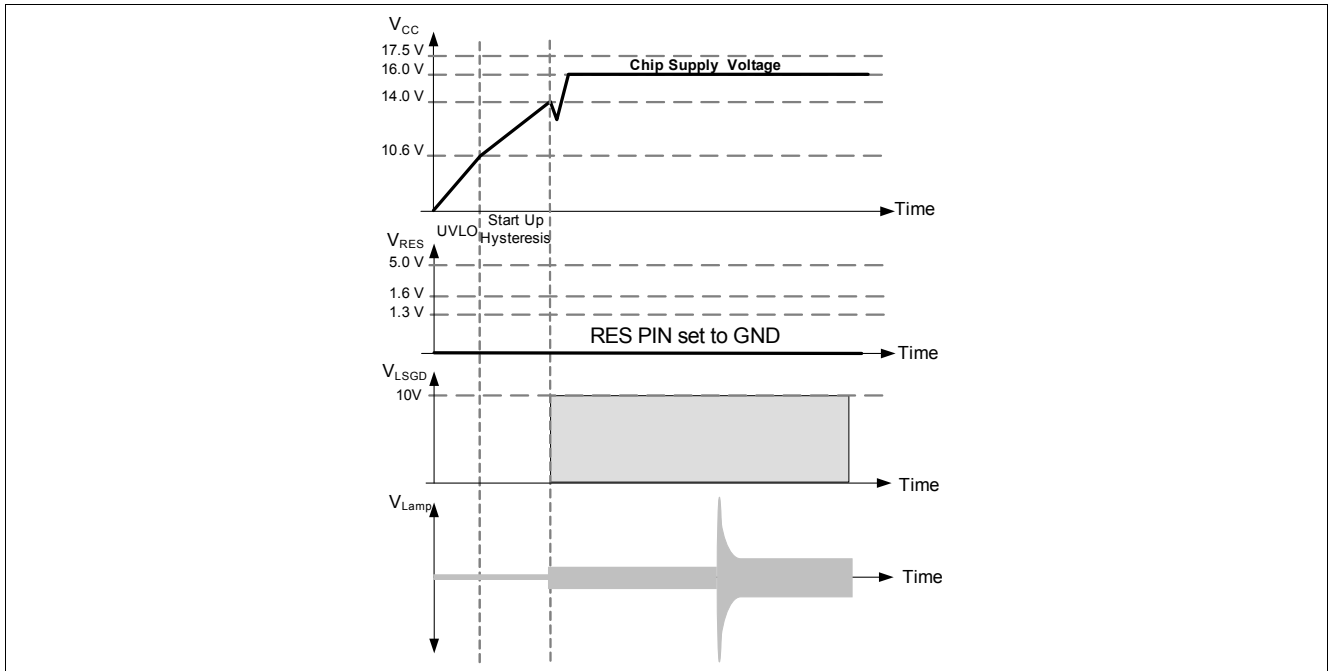
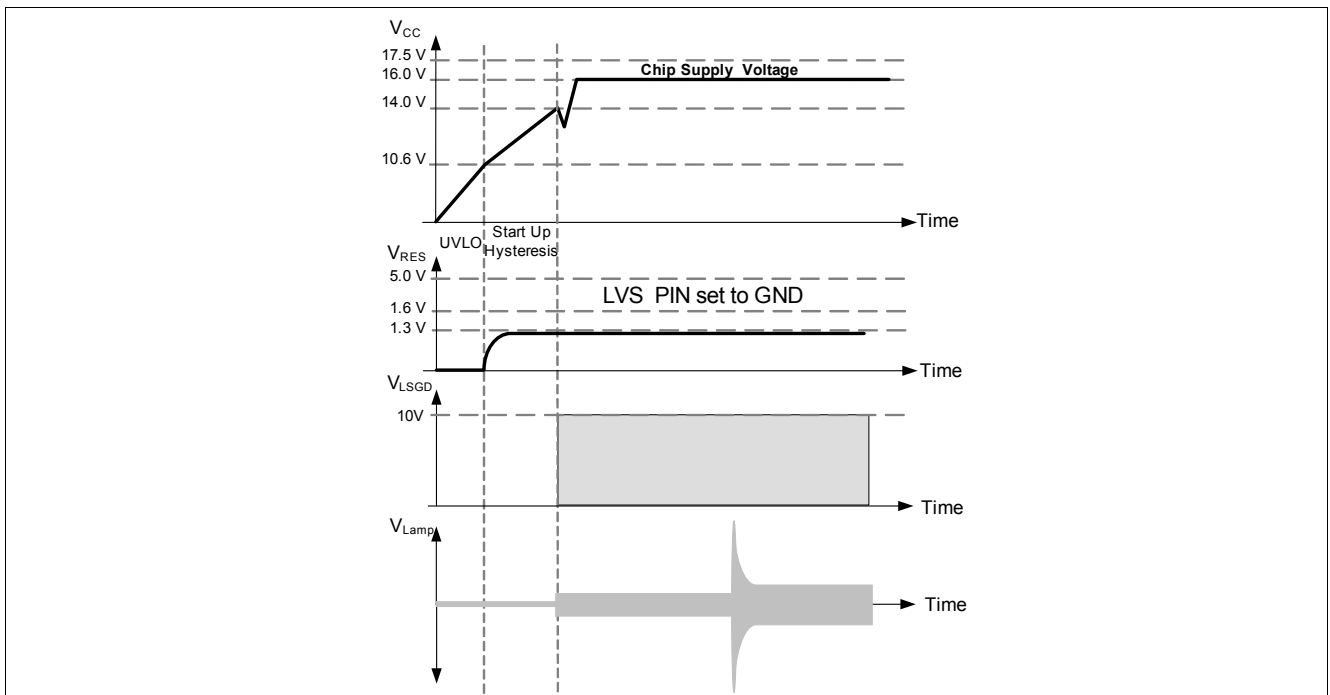

Figure 31 Deactivation via RES PIN
Figure 32 Deactivation via LVS PIN
**Figure 31** shows the deactivation of the low and high side filament via set the RES pin 13 to GND. **Figure 32** shows the deactivation of the high side filament detection via set the LVS pin to GND.